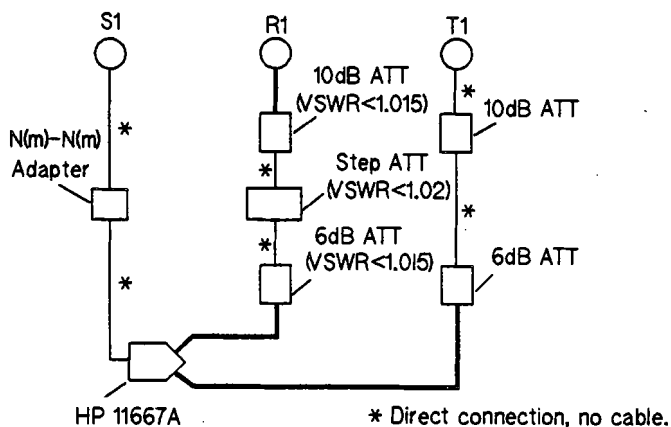

Figure 2-17. Magnitude Ratio/Phase Dynamic Accuracy Test Setup (1 of 2)
- Connect a Power Splitter, Step Attenuator, and Attenuator Pads to the HP 4195A, as shown in Figure 2-17.